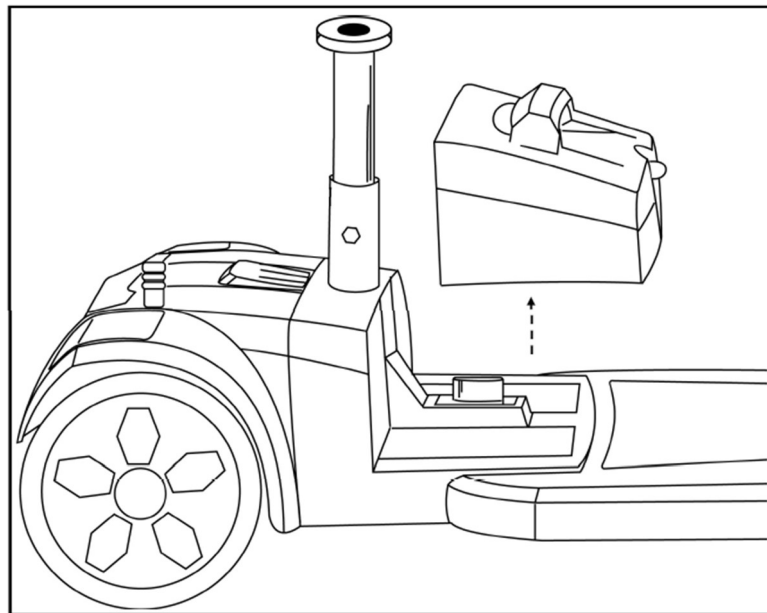

Figure 16: Removing the Battery Back
4. Lift the battery pack off the scooter. *See Figure 16.*